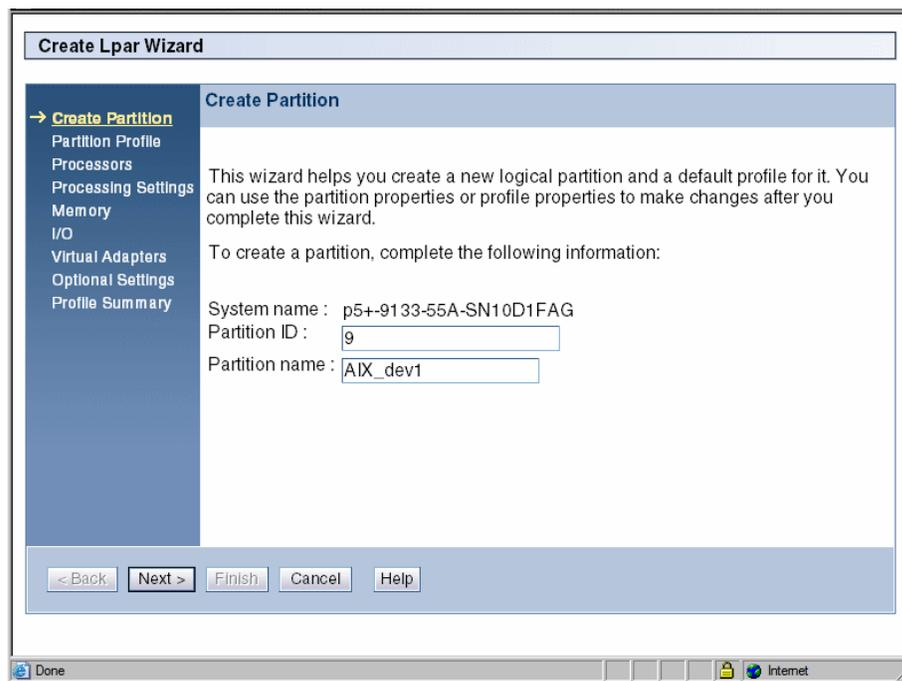

Figure 7-7 Create an AIX partition
1. Select **Configuration** → **Create Logical Partition** → **AIX or Linux** to open the window shown in Figure 7-7. Here you can set the partition ID and specify the partition's name. Then, select **Next**.